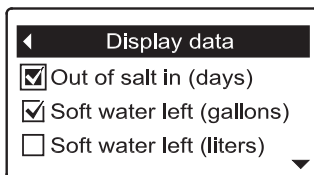

FIG. 119
4. Press the SELECT (○) button to display the Display data screen (See Figure 119).